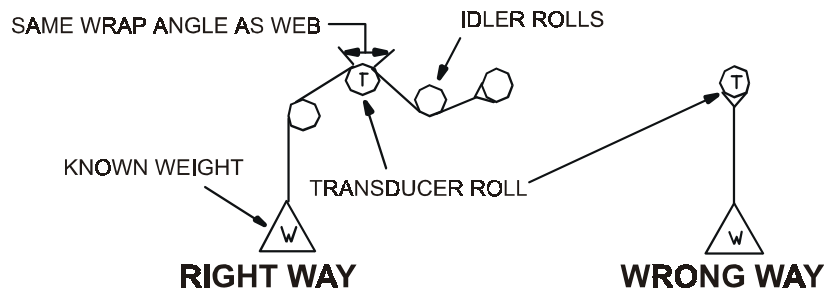

Figure 8 - WEB PATH
- Hang the test weight from the sensor roll. Thread a length of rope over the center of the roll. Be sure to follow the exact path of the web. The rope must extend from the roll *before* the sensing roll to the roll *after* it. See Fig. 8.